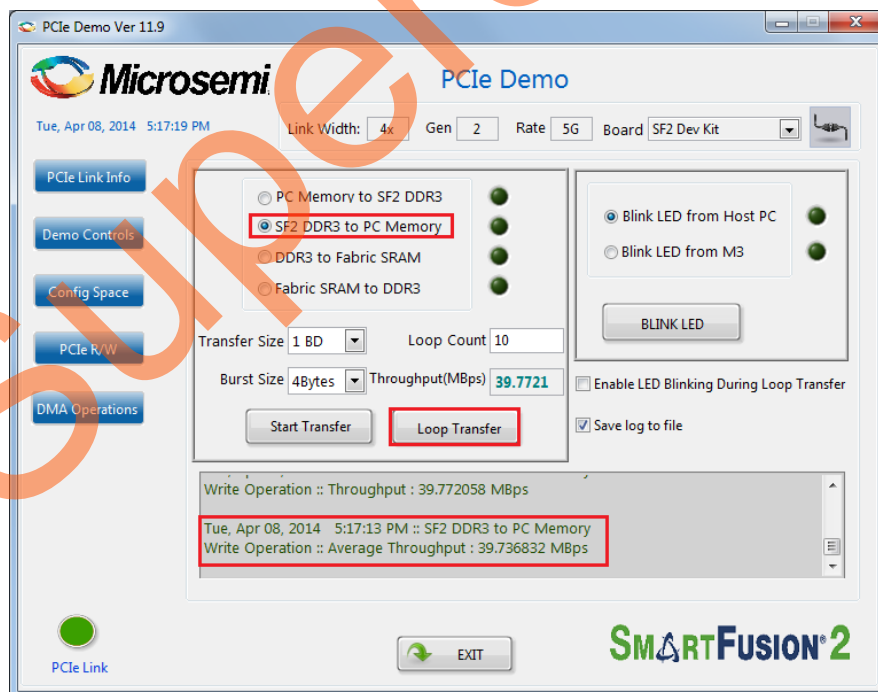

Figure 20 • DDR3 to PC Memory Transfer Throughput
9. Select the type of DMA transfer as **SF2 DDR3 to PC Memory**, select any **Transfer Size** and click **Loop Transfer** as shown in Figure 20.